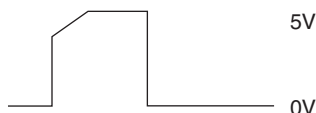

Figure B-3-2
- Yes Is a RST signal in Q3 is as specified in Figure B-3-2?